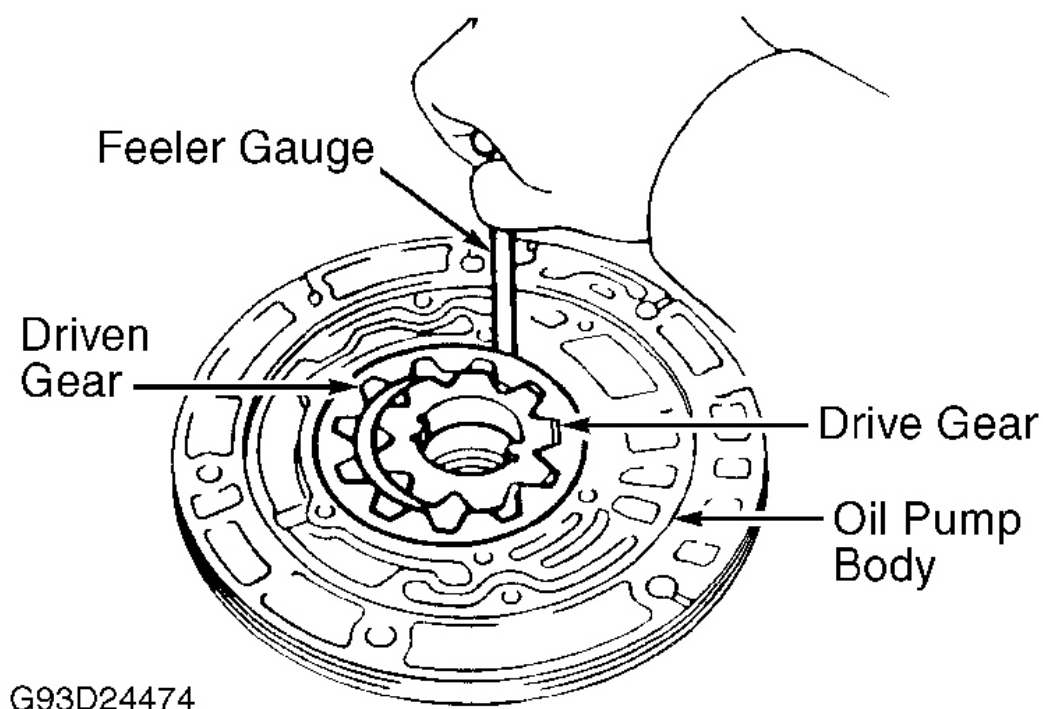

Fig. 31: Checking Oil Pump Driven Gear Clearance
1. Note position of oil pump gears. Clean all parts with solvent. Dry parts using compressed air. Ensure oil passages are clear. Check driven gear-to-body clearance. Push driven gear against one side of oil pump. Measure clearance between driven gear and oil pump body. See **Fig. 31**. Replace oil pump body if